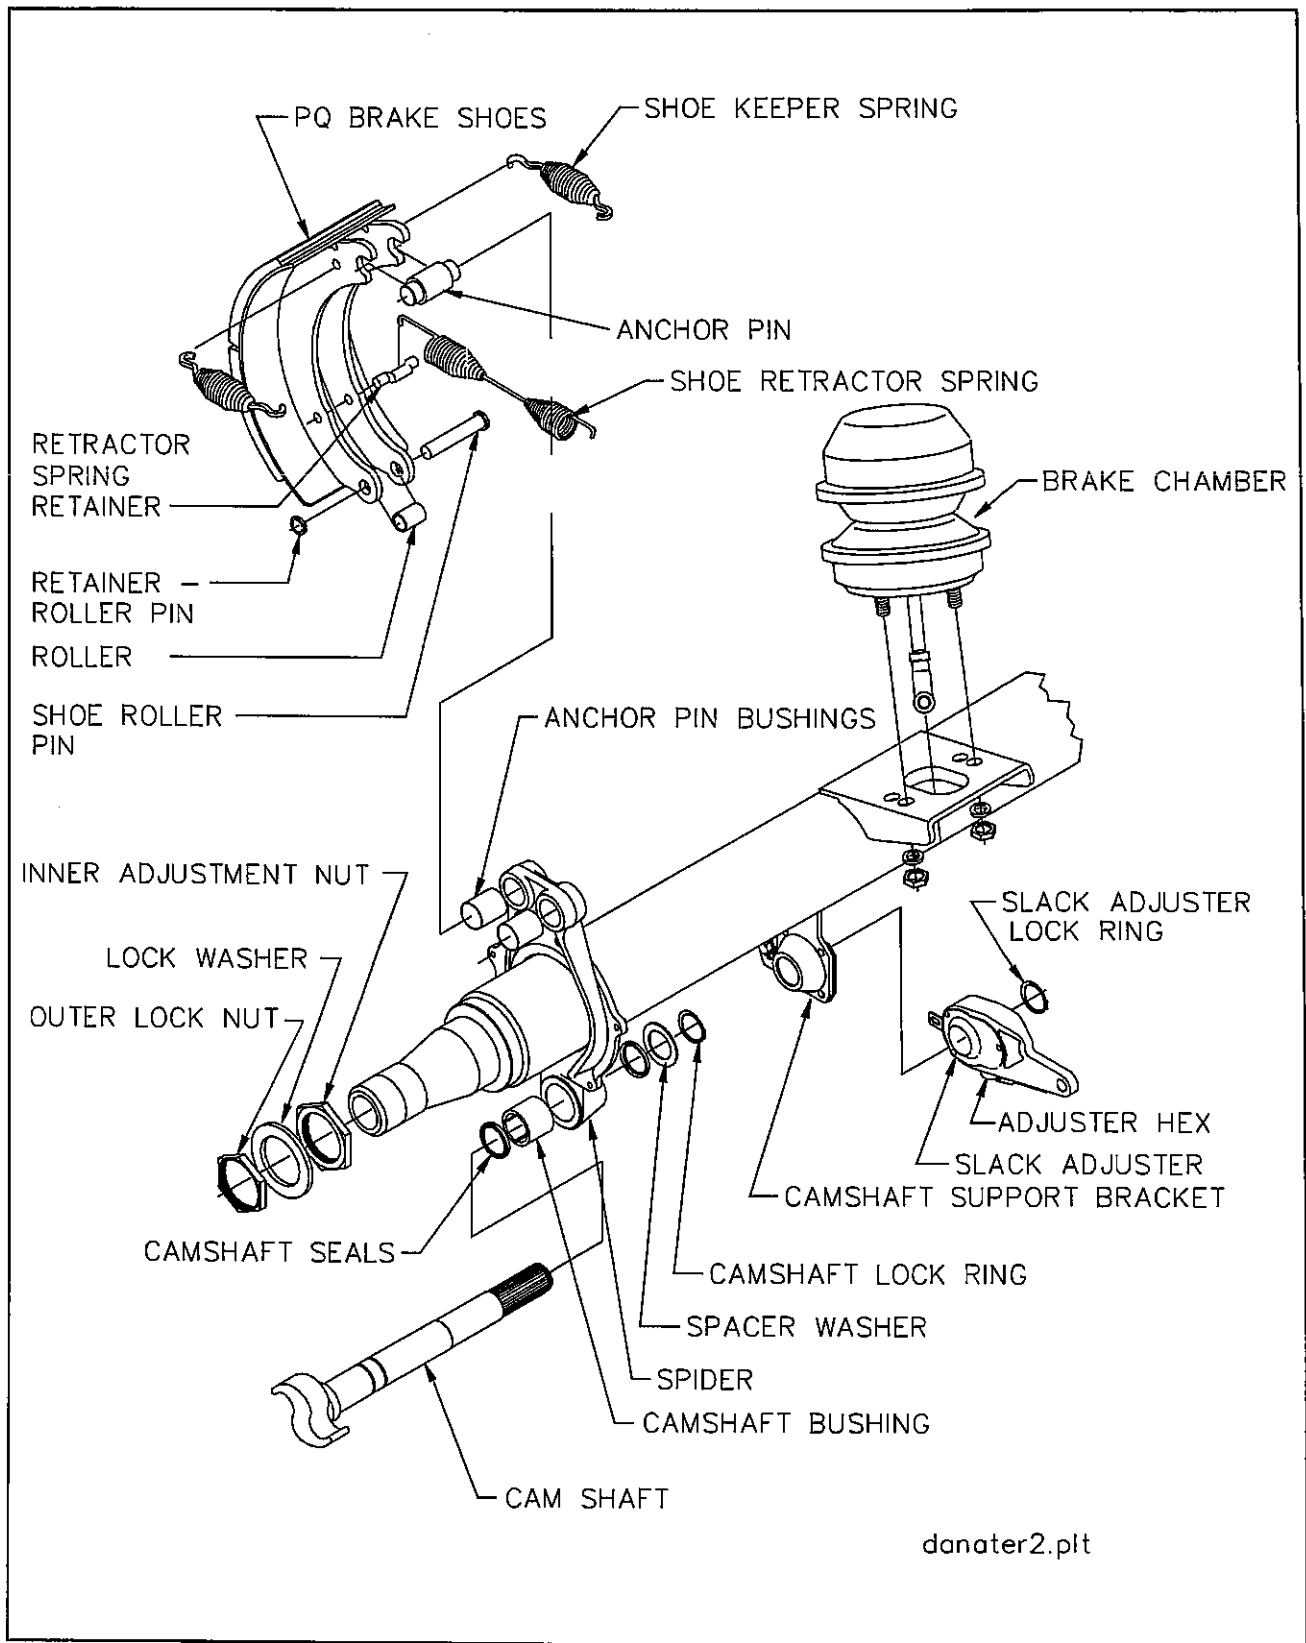

Fig. 4-3 Axle and Brake Assembly
b. **Disassembly for 16-1/2" X 7" Brakes (see Figure 4-3)**
c. **Reassembly for 16-1/2" X 7" Brakes (see Figure 4-3)**
d. Remove the outer spindle nut and locking washer (see Figure 4-3).